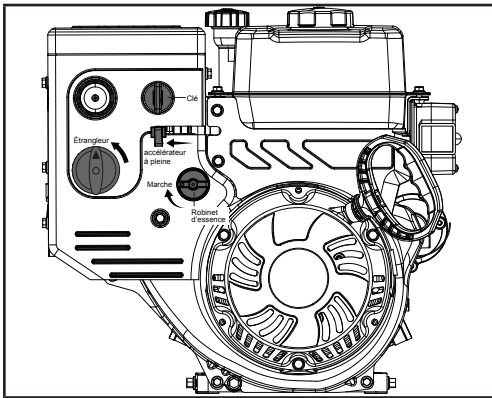

Figure 12A
1. Make sure the engine safety key is inserted into the key hole (Fig. 12A).
2. Move the fuel valve lever to the on position (Fig. 12A).
- a. To start a cold engine, move the choke lever to the choke position (Fig. 12A).
4. Move the throttle lever to full speed to start the engine (Fig. 12A).